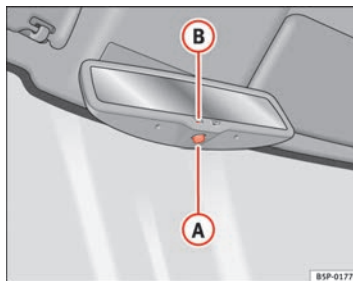

Fig. 88 Automatic anti-dazzle interior rear vision mirror.
- Press button **A** ⇒ Fig. 88. Control lamp **B** goes off.
- Press button **A** ⇒ Fig. 88. Control lamp is lit.